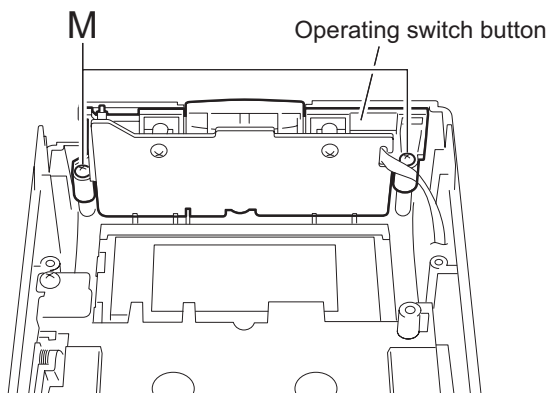

Fig.19
2.1.10 Removing the operating switch board (See Fig.19,20)